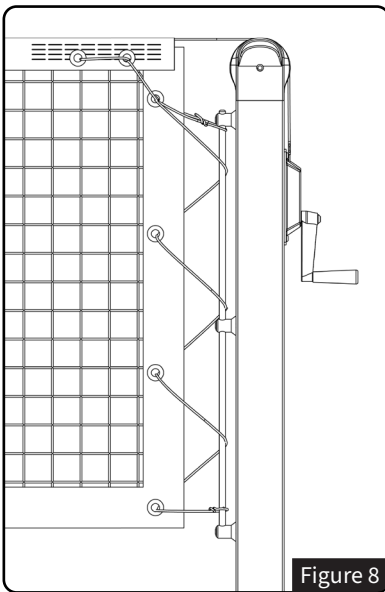

Figure 8
- Thread the **Lacing Cord (E)** through both headband grommets, then back through each grommet in the opposite direction.
- Continue threading the cord around the lacing rod and through each grommet as shown in *Figure 8*, applying even tension as you work down the net.